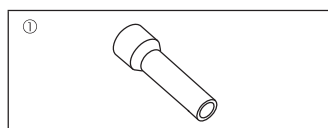

Fig. 1-1
1.6. Accessories of outdoor unit (Fig. 1-1) (ZM200/250, M200/250)